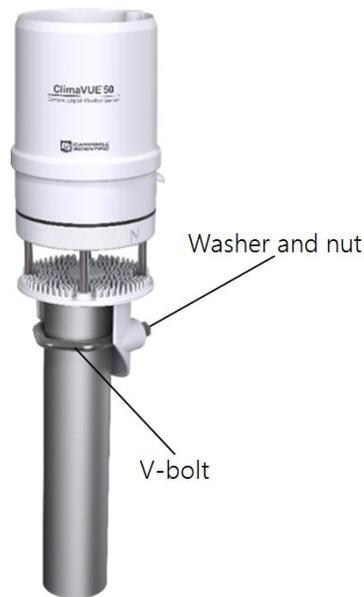

Figure 7-2. ClimaVUE 50 mounted to a pole with V-bolt and nuts
- Loosely mount the ClimaVUE 50 to the tripod mast, CM300-series pole, or mounting tube by using the V-bolt, washers, and nuts (Figure 7-2 (p. 17)).